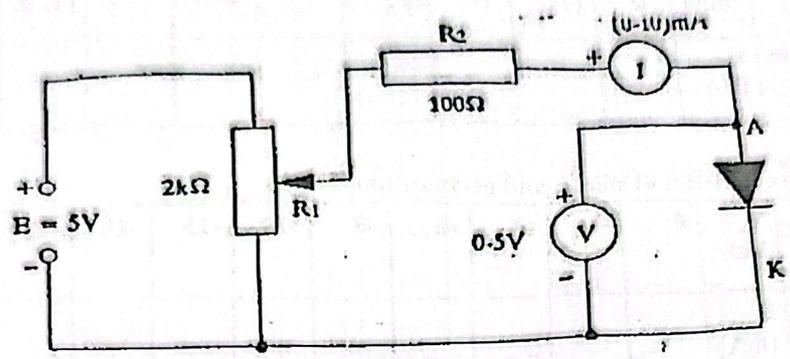

Fig. 1. Forward-biasing mode of the diode
- (i) Set up the circuit shown in Fig. 1 for the silicon diode and switch on the power supply set at 5V.